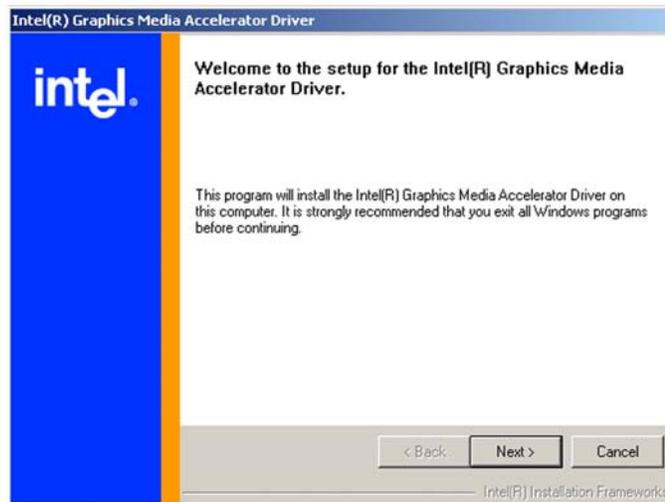

Figure 6-11: GMA Driver Installation Welcome Screen
Step 8: The welcome screen shown in **Figure 6-11** appears.